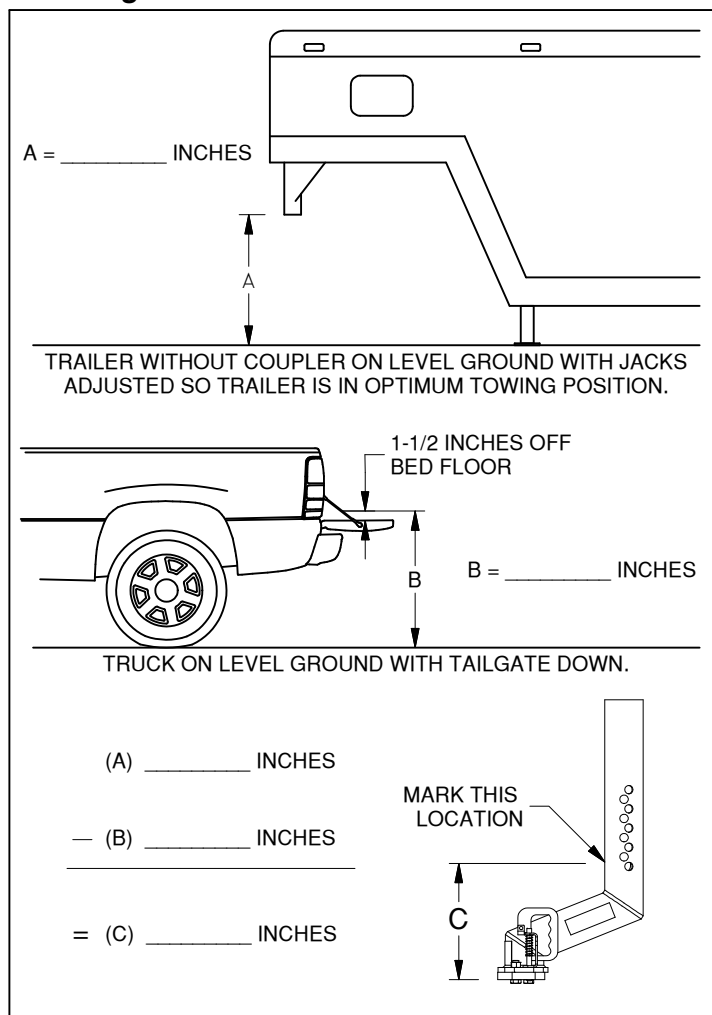

FIGURE A5: Coupler height determination.
2. With the trailer jacks adjusted so the trailer is in its optimum towing position, determine the distance between the bottom of the trailer sleeve and where the bottom of the coupler will be when coupled to the ball. See figure A5. Mark this position on the coupler.